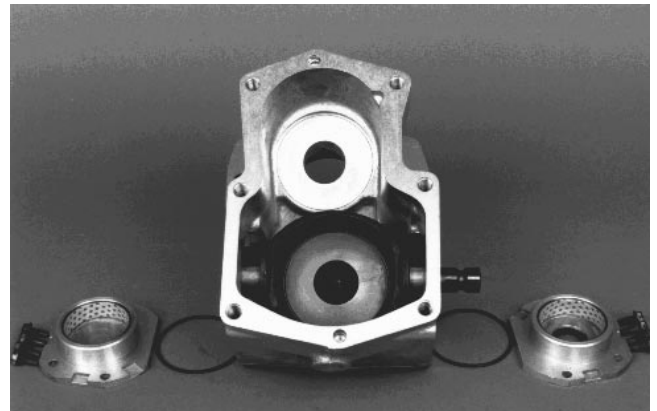

Figure 59
3. Install trunnion cover (with o-ring and trunnion bearing) into housing and over swashplate trunnion (Fig. 59).